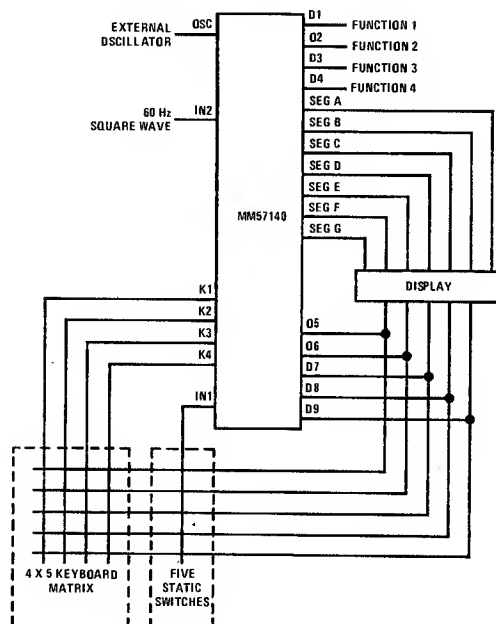
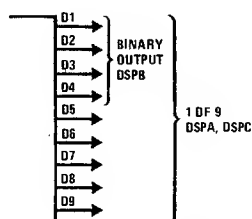

FIGURE 4. Clock and 4-Function Timer
FIGURE 5. Digit Options
The ROM, RAM, architecture of the MM57140 enables it to be used in a wide variety of control applications. Flexibility is achieved on the input and output line through the use of various mask options. *Figure 5* and *Figure 6* illustrate the digit and segment options on the MM57140.
*Figure 4* suggests a circuit which permits the MM57140 to function as a clock with four presettable and resettable function outputs by using an alternate digit option. This clock provides time keyboard setting of digit on and off times for each of the four functions. Other applications requiring input, output as described in *Figures 5* and *6* may be provided by the MM57140 when ROM and RAM capacity coincide.